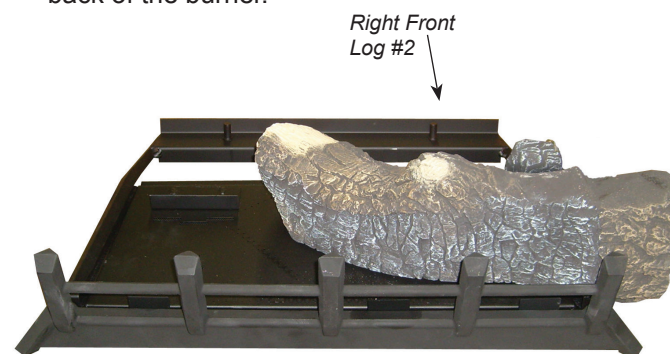

Figure 32.
2. Place front right log (#2) on right pin located on burner and right grate bar. Figure 32 After placing front right log, ensure log is fully upright and tilting towards the back of the burner.